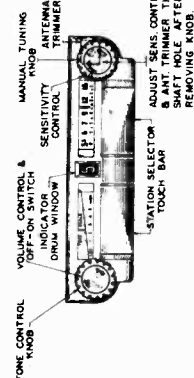

Fig. 2. Front Panel View
1. Press station selector touch bar (Fig. 2) several times or until the letter 'M' appears in indicator window.